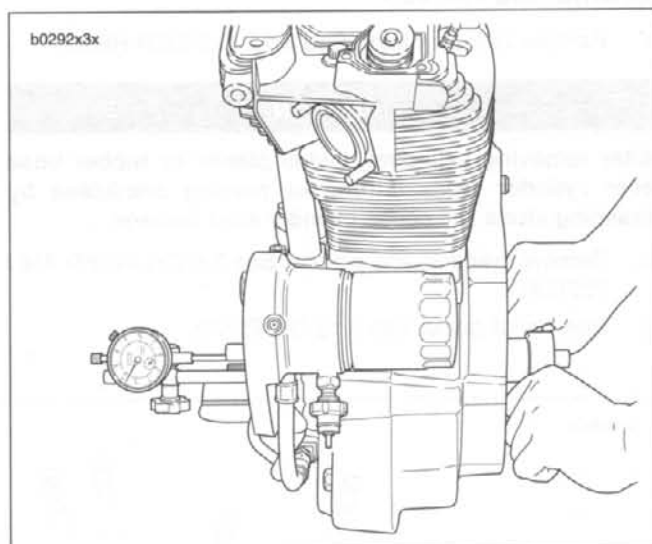

Figure 3-124. Checking Flywheel End Play
- See Figure 3-124. Attach a dial indicator to gear side crankcase with indicator stem on end of gearshaft.